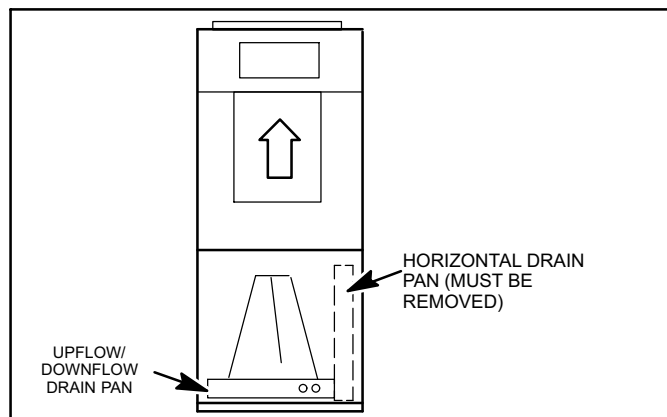

Figure 1. Upflow Configuration
2. After removing horizontal drain pan, place the unit in desired location. Set unit so that it is level. Connect return and supply air plenums as required using sheet metal screws as illustrated in figure 1.